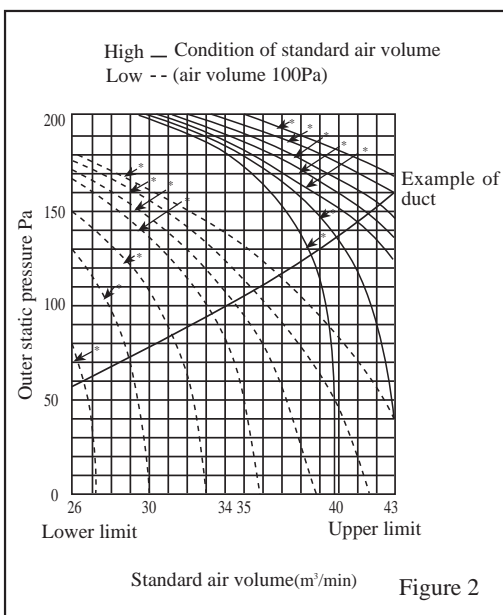

Figure 2
- 3) The figure circled in Figure 2 indicate the capacity number of fan controller(for AD482AHEAA). The non-listed capacity number may exceed the permitted operation capacity range, so it is impossible to operate.